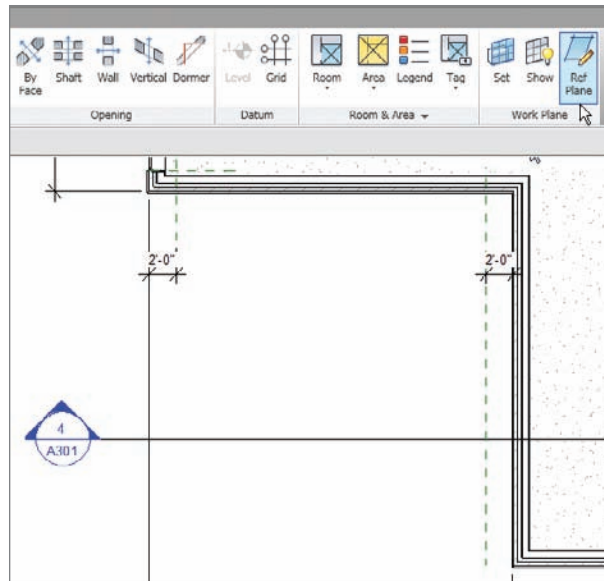

FIGURE 16.27 Offsetting two reference planes 2'-0" from the face of brick
3. Offset a reference plane 2’-0” from the face of brick, as shown in Figure 16.27.